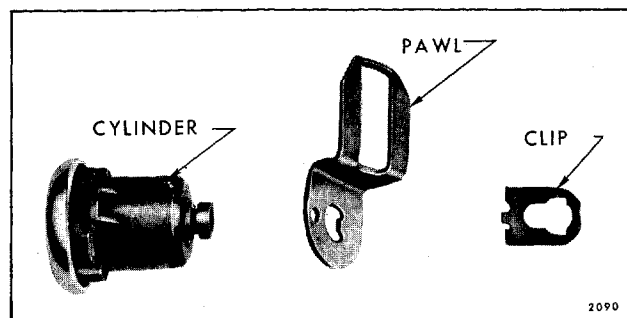

Fig. 7-63—Door Lock Cylinder Assembly
2. With a flat-bladed tool, remove retaining clip and pawl (Fig. 7-63).